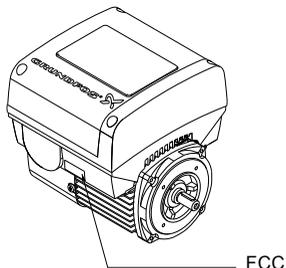

Fig. 79 FCC label
10. If the CIM module is supplied with an FCC label, then place this on the terminal box. See fig. 79.